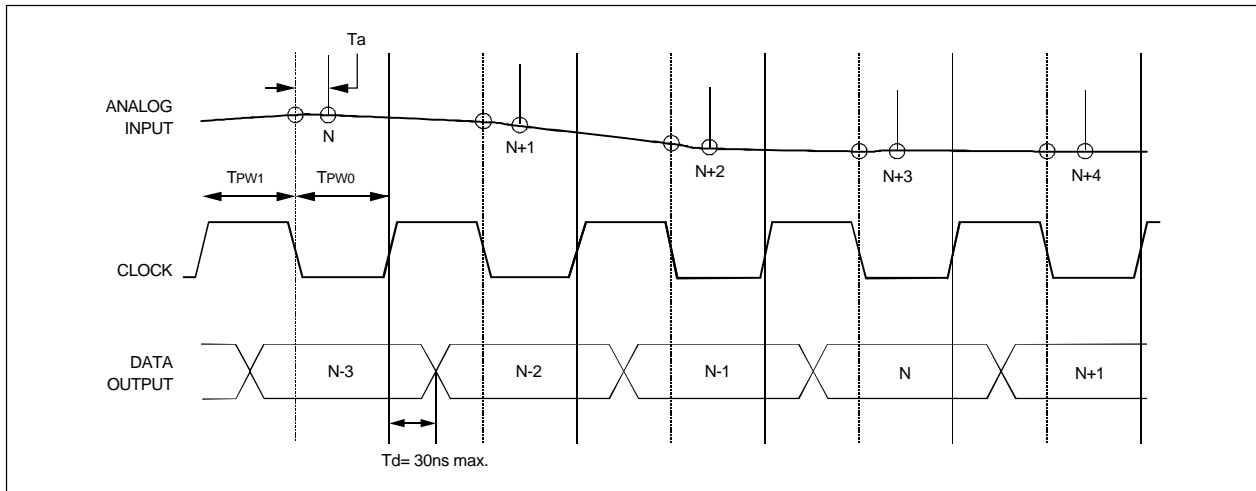

Figure 2. Timing Diagram
- 8. Maximum 30ns (18ns typical) after the rising edge of the Nth conversion pulse, the result of the (N-3) conversion can be obtained. Data is stored firmly in an output register, such as an 74LS574, using the rising edge of a start convert pulse as a trigger. The (N-4) data is stored in this case. See the timing diagrams, Figure 2 and 4.